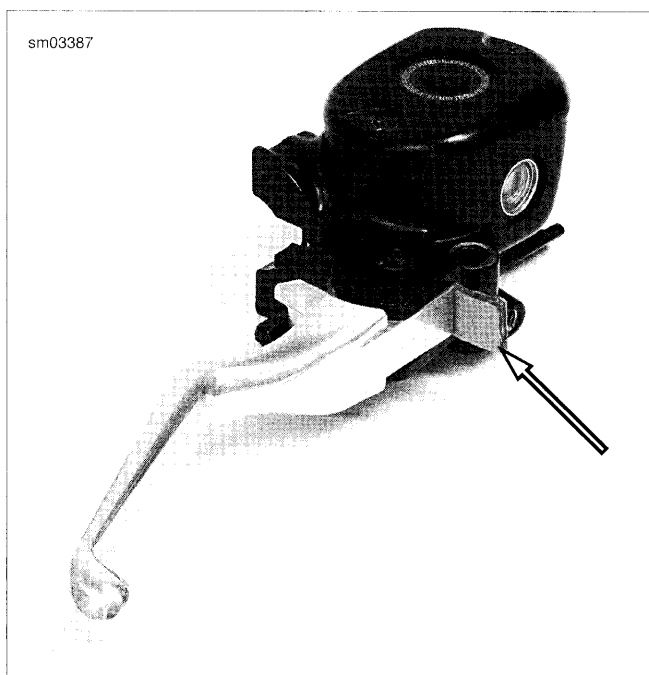

Figure 6-129. Install Cardboard Insert
2. See Figure 6-129. Place the cardboard insert between the brake lever and lever bracket.